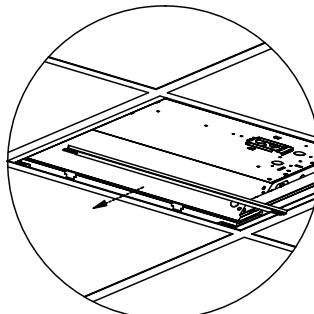

Figure 3
3. If needed, install the side plates between the fixture and T-grid, there are two tabs to allow for placing the side brackets into the slot of the end plates. (See Fig. 3)